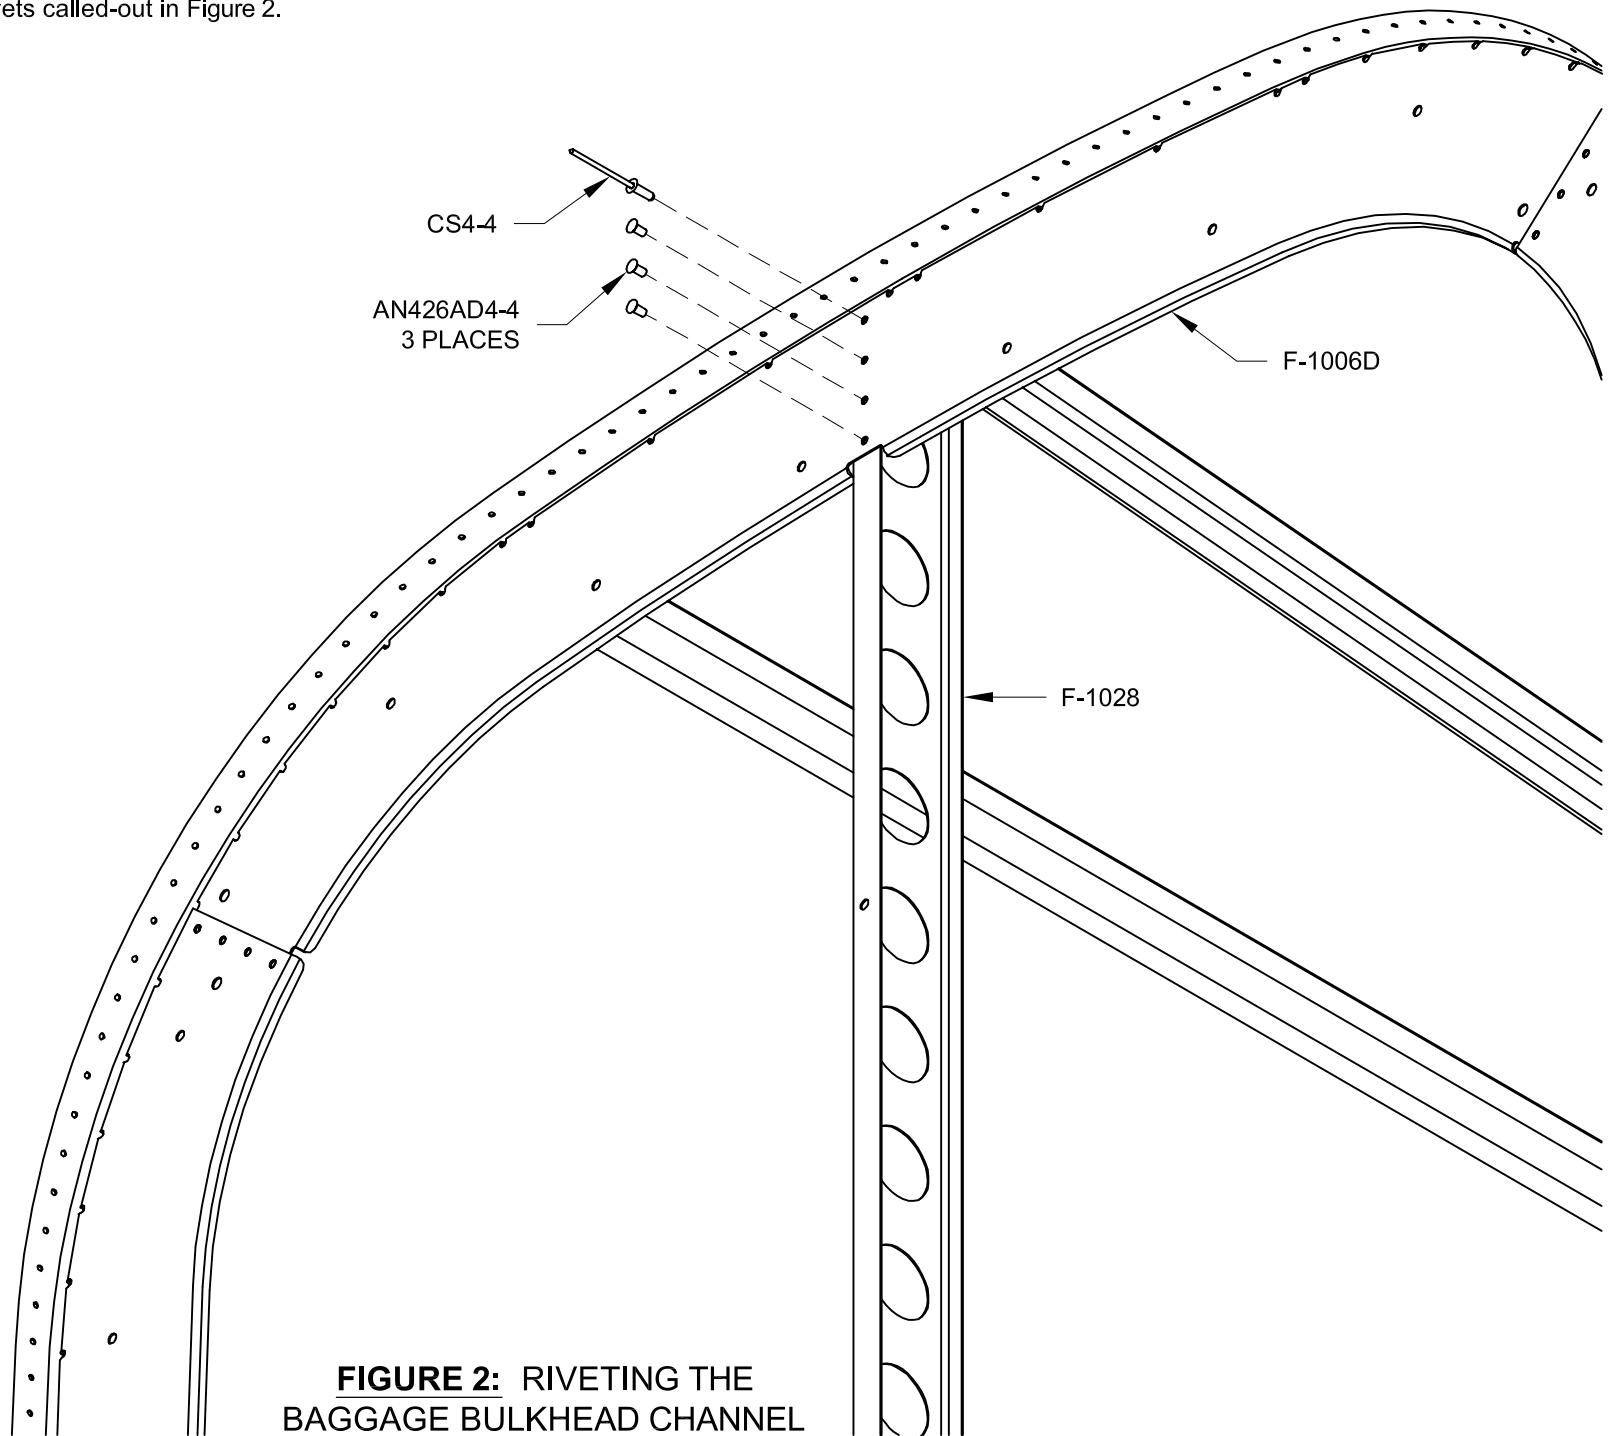

FIGURE 2: RIVETING THE BAGGAGE BULKHEAD CHANNEL
Step 3: Secure the top end of the F-1028 Baggage Bulkhead Channel to the F-1006D Bulkhead using the rivets called-out in Figure 2.